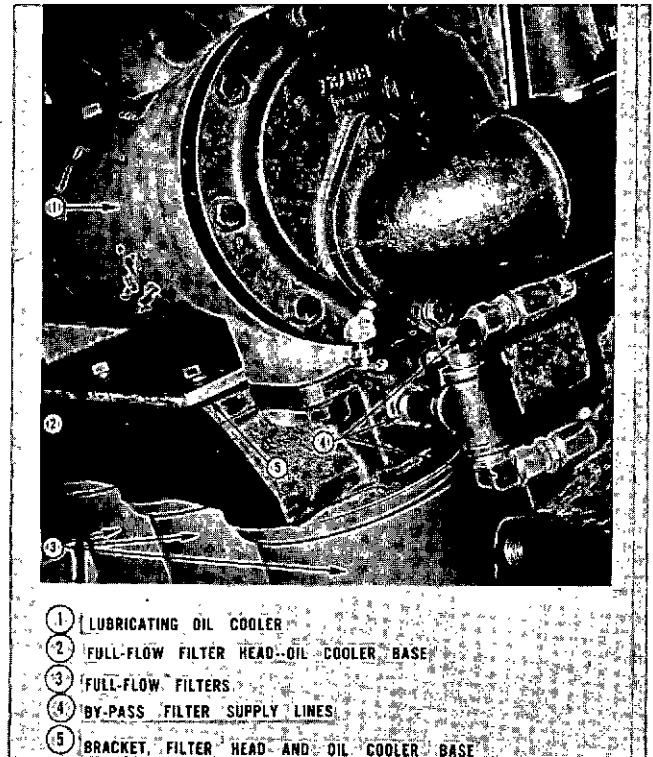

Fig. 14-1-113, V40735. Mounting by-pass filter supply line
3. Connect by-pass filter supply line to tapped hole in flywheel housing end of full-flow filter head. Attach flexible hose from by-pass filter inlet. Fig. 14-1-113.